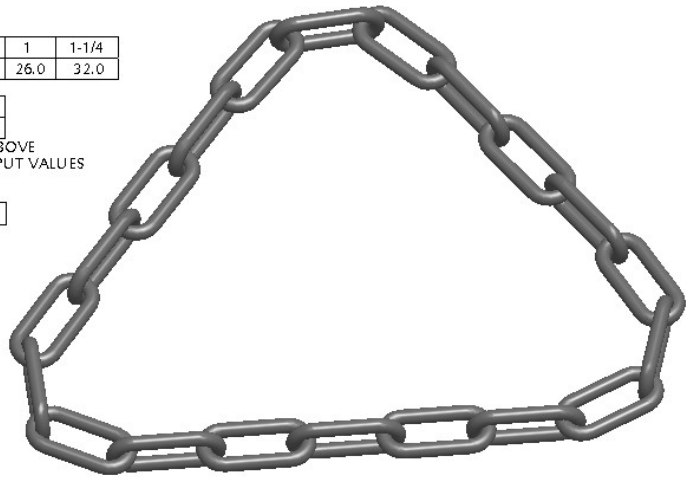

Figure 1
- Next, the UDF feature placement dialog box will appear. Utilize the **Variables** tab to set your chain nominal diameter (CROLLDIA) and grade (CGRADE) value if known. Standard values for millimeter parts are shown in figure 1.
- Next, utilize the **Variables** tab to set your chain nominal diameter (CROLLDIA) and grade (CGRADE) value if known. Standard values for inch parts are shown in figure 1.